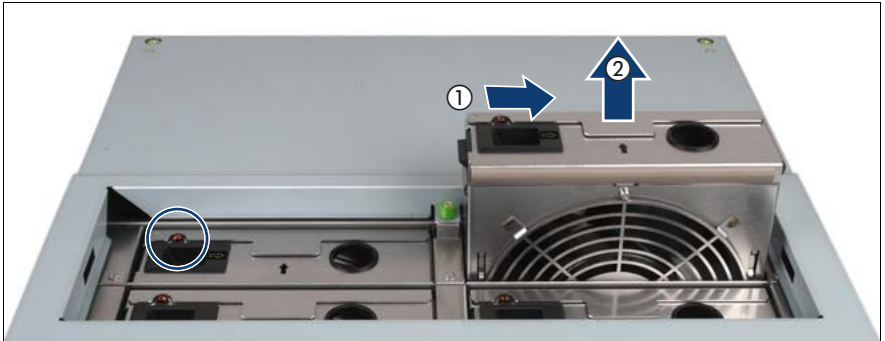

Figure 50: Identifying and removing a defective fan module
- ▶ Identify the defective fan module. The indicator of the defective fan lights up Orange, see circle in figure 50.